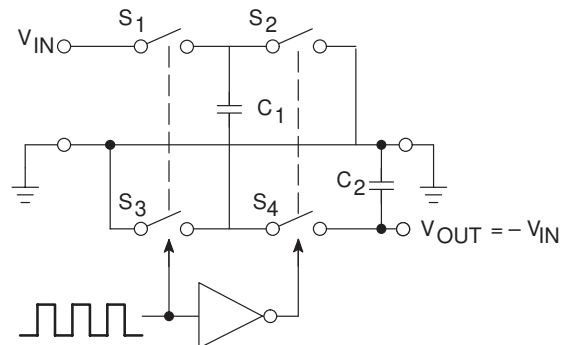
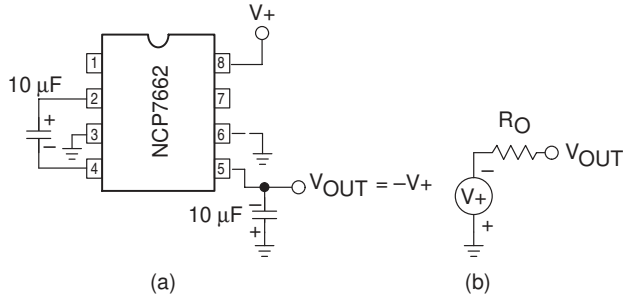
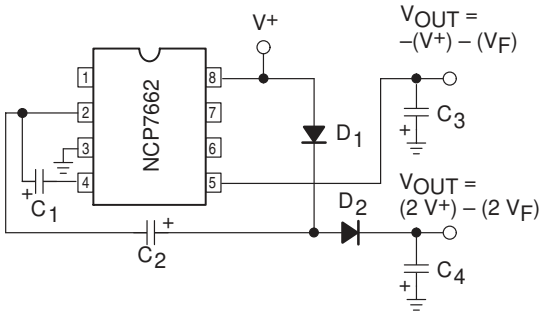

Figure 2. Idealized Negative Voltage Capacitor
Figure 3. Simple Negative Converter and its Output Equivalent
Figure 10. Combined Negative Converter and Positive Doubler
ELECTRICAL CHARACTERISTICS (V⁺ = 5 V, T_A = +25°C, OSC = Free running, Test Circuit Figure 2, unless otherwise specified.)
The NCP7662 contains all the necessary circuitry to complete a negative voltage converter, with the exception of two external capacitors which may be inexpensive 1 μ F polarized electrolytic types. The mode of operation of the device may be best understood by considering Figure 2, which shows an idealized negative voltage converter. Capacitor C₁ is charged to a voltage V₊ for the half cycle when switches S₁ and S₃ are closed. (Note: Switches S₂ and S₄ are open during this half cycle.) During the second half cycle of operation, switches S₂ and S₄ are closed, with S₁ and S₃ open, thereby shifting capacitor C₁ negatively by V₊ volts. Charge is then transferred from C₁ to C₂ such that the voltage on C₂ is exactly V₊, assuming ideal switches and no load on C₂. The NCP7662 approaches this ideal situation more closely than existing non-mechanical circuits.
In the NCP7662 the four switches of Figure 2 are MOS power switches; S₁ is a P-channel device and S₂, S₃ and S₄ are N-channel devices. The main difficulty with this approach is that in integrating the switches, the substrates of S₃ and S₄ must always remain reverse biased with respect to their sources, but not so much as to degrade their "ON" resistances. In addition, at circuit start up, and under output short circuit conditions (V_{OUT} = V₊), the output voltage must be sensed and the substrate bias adjusted accordingly. Failure to accomplish this would result in high power losses and probable device latchup.
where V₁ and V₂ are the voltages on C₁ during the pump and transfer cycles. If the impedances of C₁ and C₂ are relatively high at the pump frequency (refer to Figure 2) compared to the value of R_L, there will be a substantial difference in voltages V₁ and V₂. Therefore, it is desirable not only to make C₂ as large as possible to eliminate output voltage ripple, but also to employ a correspondingly large value for C₁ in order to achieve maximum efficiency of operation.
The majority of applications will undoubtedly utilize the NCP7662 for generation of negative supply voltages. Figure 3 shows typical connections to provide a negative supply where a positive supply of +1.5 V to +15 V is available. Keep in mind that pin 6 (LV) is tied to the supply negative (GND) for supply voltages below 3.5 volts.
The output characteristics of the circuit in Figure 3 can be approximated by an ideal voltage source in series with a resistance as shown in Figure 3b. The voltage source has a value of $-(V+)$. The output impedance (R_O) is a function of the ON resistance of the internal MOS switches (shown in Figure 2), the switching frequency, the value of C_1 and C_2 , and the ESR (equivalent series resistance) of C_1 and C_2 . A good first order approximation for R_O is:
Figure 10 combines the functions shown in Figures 3 and 9 to provide negative voltage conversion and positive voltage doubling simultaneously. This approach would be, for example, suitable for generating +9 V and -5 V from an existing +5 V supply. In this instance, capacitors C1 and C3 perform the pump and reservoir functions, respectively, for the generation of the negative voltage, while capacitors C2 and C4 are pump and reservoir, respectively, for the doubled positive voltage. There is a penalty in this configuration which combines both functions, however, in that the source impedances of the generated supplies will be somewhat higher due to the finite impedance of the common charge pump driver at pin 2 of the device.